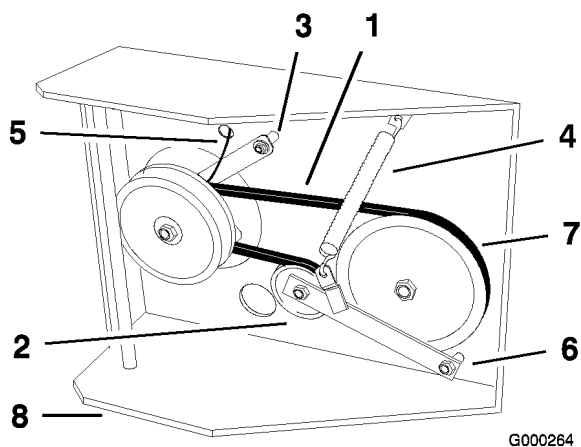

Figure 48
6. Disconnect clutch retainer from the engine deck (Figure 48).
7. Unhook tension spring from side of frame (Figure 48).
10. Torque pivot bolt to 35-40 ft-lb (47-54 N·m). Install tension spring between idler arm and frame bracket (Figure 48).
11. Install clutch retainer to the engine deck (Figure 48).
Blades must be replaced if a solid object is hit, if the blade is out of balance or is bent. To ensure optimum performance and continued safety conformance of the machine, use genuine Toro replacement blades. Replacement blades made by other manufacturers may result in non-conformance with safety standards. 1. Hold the blade end using a rag or thickly-padded glove. (Fig. 48).